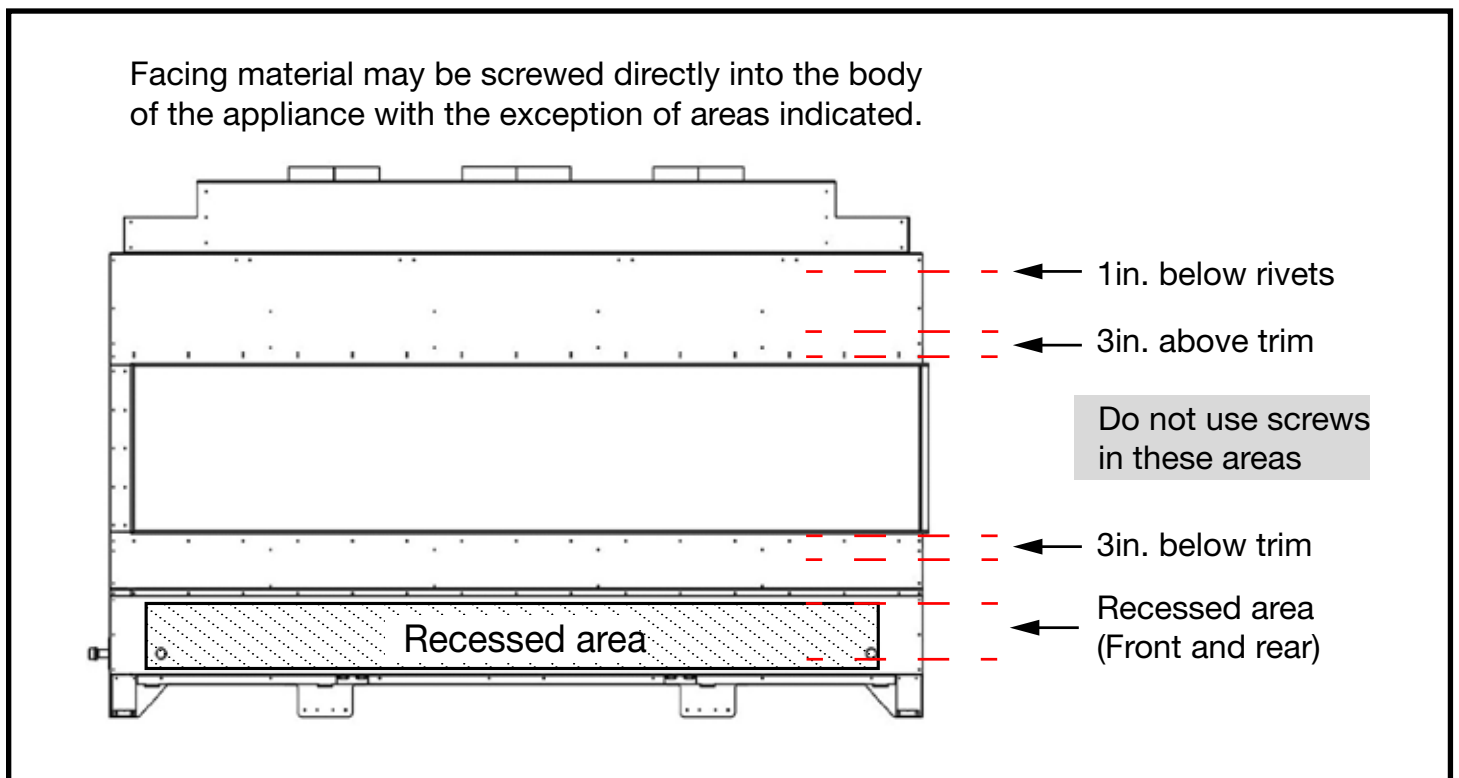

Figure 8: Facing attachment area for Top Intake models.
2. Facing material can be secured directly to the front and sides of the unit except in the areas indicated in this example by Figure 8. Each model will have its own specific areas in which screws must not be driven into.